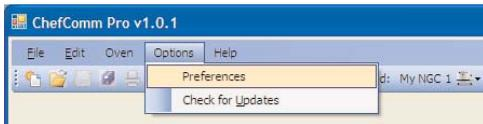

Figure 43: Select Options > Preferences
1. From the main ChefComm window, select **Options > Preferences** (Figure 43).